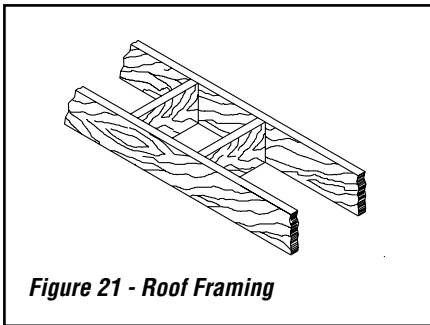

Figure 21 - Roof Framing
1. Cut and frame the holes in the ceiling, floor and roof where the chimney will pass (see **Figure 21**). Use a plumb-bob to line up the center of the holes. The sizes are indicated in **Table 2** for the floor and ceiling holes and **Table 3 (Page 16)** for the roof holes.